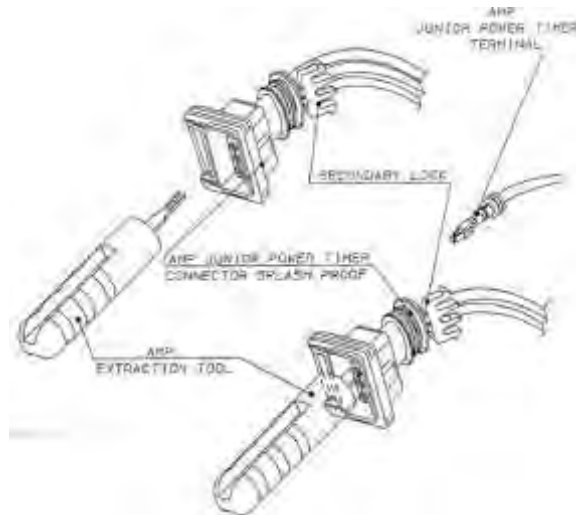

Figure 95
- c. Hold mating face of connector toward you and determine location of latching mechanism in the appropriate connector cavity as shown in Figure 95.